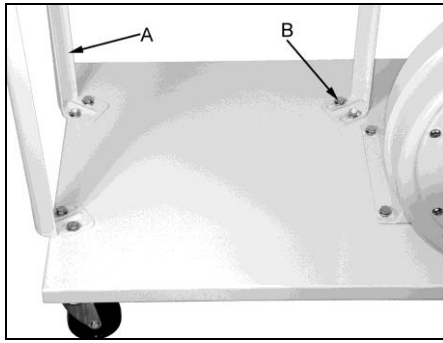

Fig 4
Attach 3 support brackets (A, Fig 4) to the base using 6 hex cap screws (B) and washers.